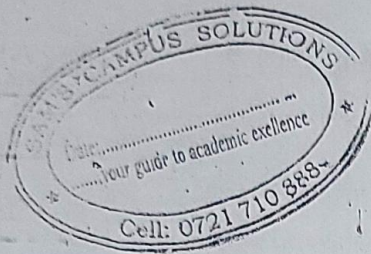

Fig Q5b) Pipe and pipe fittings
- c) Fig Q5b shows a double-line drawing for a system of pipe fittings. Redraw the figure as a single-line drawing and label all the fittings. (8 marks)